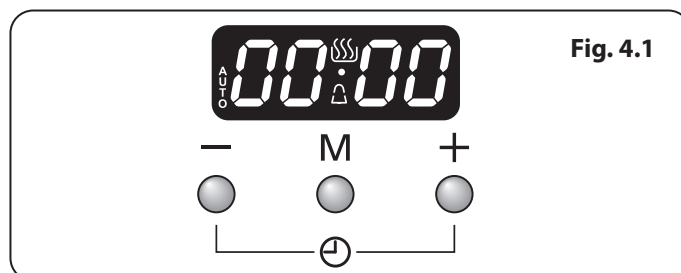

Fig. 4.1
1. The LCD clock is shown in (Fig. 4.1). Once the cooker is connected and switched on, the display flashes (00.00) and the time starts from (00.00).